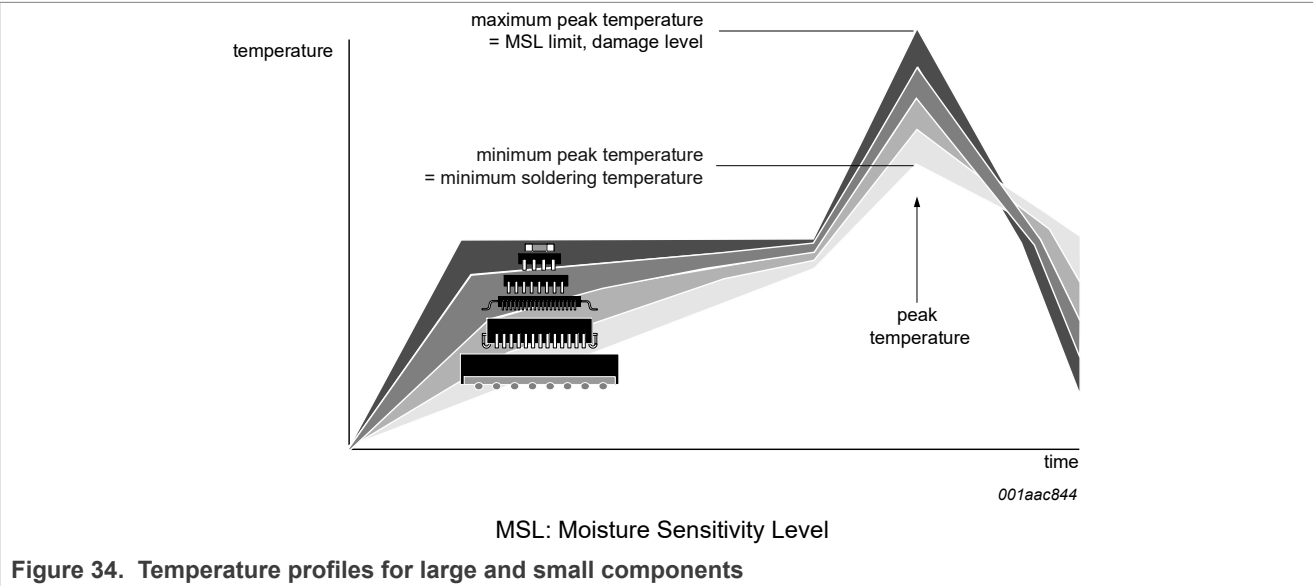

Figure 34. Temperature profiles for large and small components
- Lead-free versus SnPb soldering; note that a lead-free reflow process usually leads to higher minimum peak temperatures (see Figure 34) than a SnPb process, thus reducing the process window
Moisture sensitivity precautions, as indicated on the packing, must be respected at all times. Studies have shown that small packages reach higher temperatures during reflow soldering, see Figure 34.